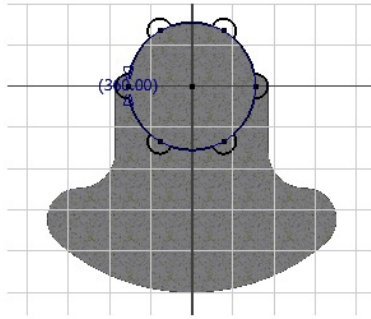

Figure 6-134 Sketch of the join feature
- Create the second feature on the YZ plane and extrude it using the **Symmetric** option, refer to Figures 6-134 and 6-135.
4. Draw the sketch of the join feature, as shown in Figure 6-134. For dimensions, refer to Figure 6-131.
It is recommended that you create a big circle and a small circle on the periphery of the base feature. Trim the unwanted portion of the small circle and then pattern the small circle, refer to Figure 6-134.